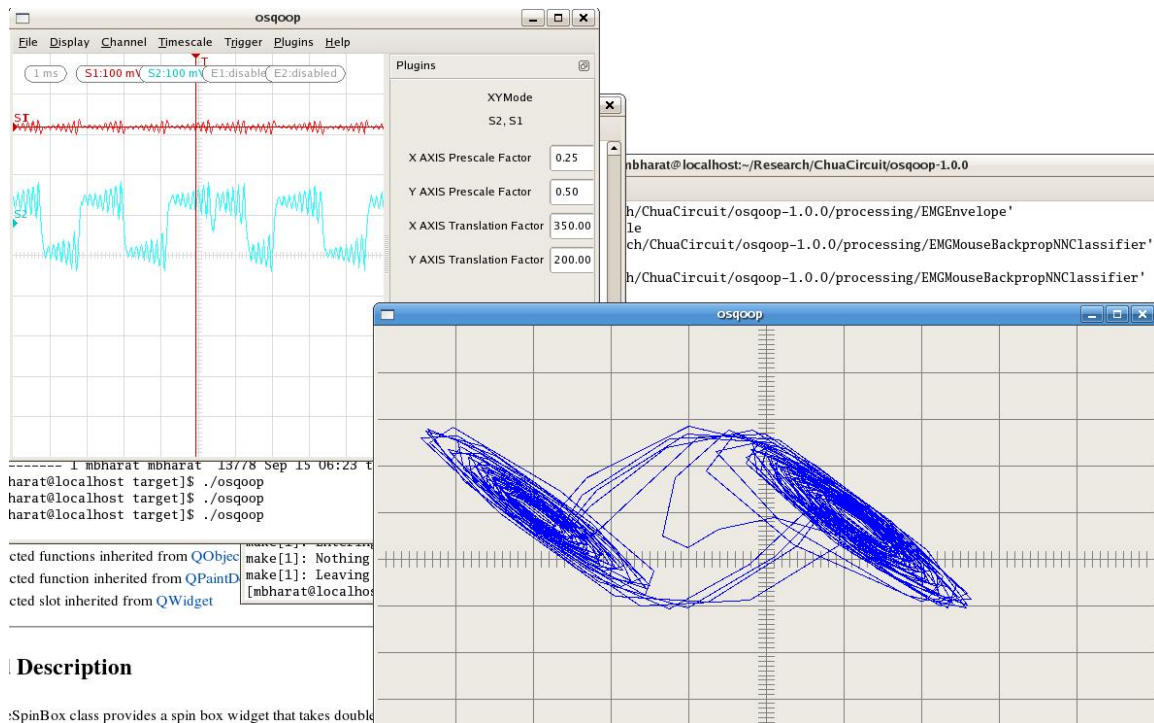

Figure 23. Screenshot of osqoop
5. Vary the potentiometer between the two capacitors and observe the evolution route to chaos and listen to the sound of chaos through the computer’s speaker. An osqoop screenshot is shown in figure 23.